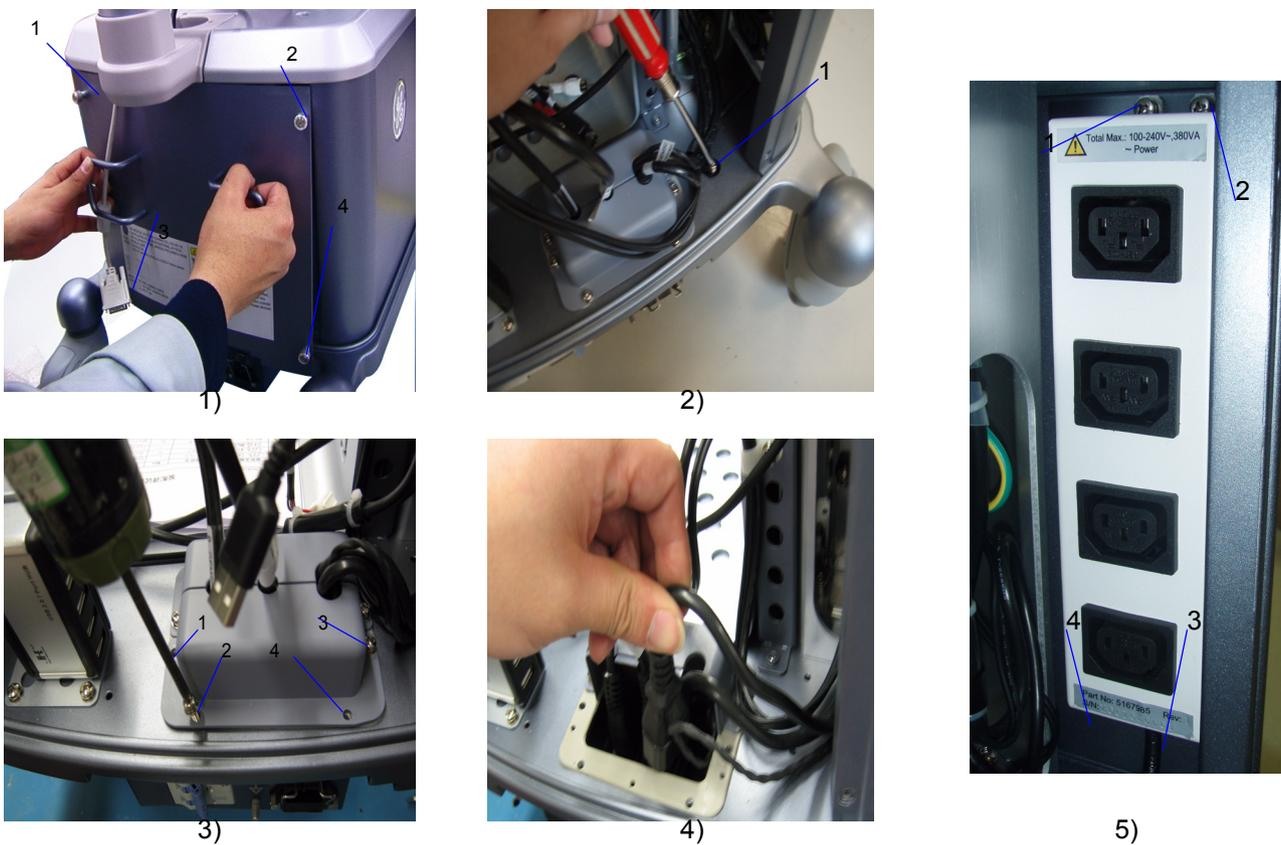

Figure 8-23 Power Strip Disassembly
- 1.) Loose 4 screws of the rear panel and remove it, refer to Figure 8-23 on page 41 .
- 2.) Unscrew 1 screw [[M4x14] of the cable clip, refer to Figure 8-23 on page 41 .
- 3.) Unscrew 4 screws [M4x14] and remove the cover, refer to Figure 8-23 on page 41 .
- 4.) Disconnect the cable, refer to Figure 8-23 on page 41 .
- 5.) Unscrew 4 screws [M4x8] of the power strip and remove it, refer to Figure 8-23 on page 41 .